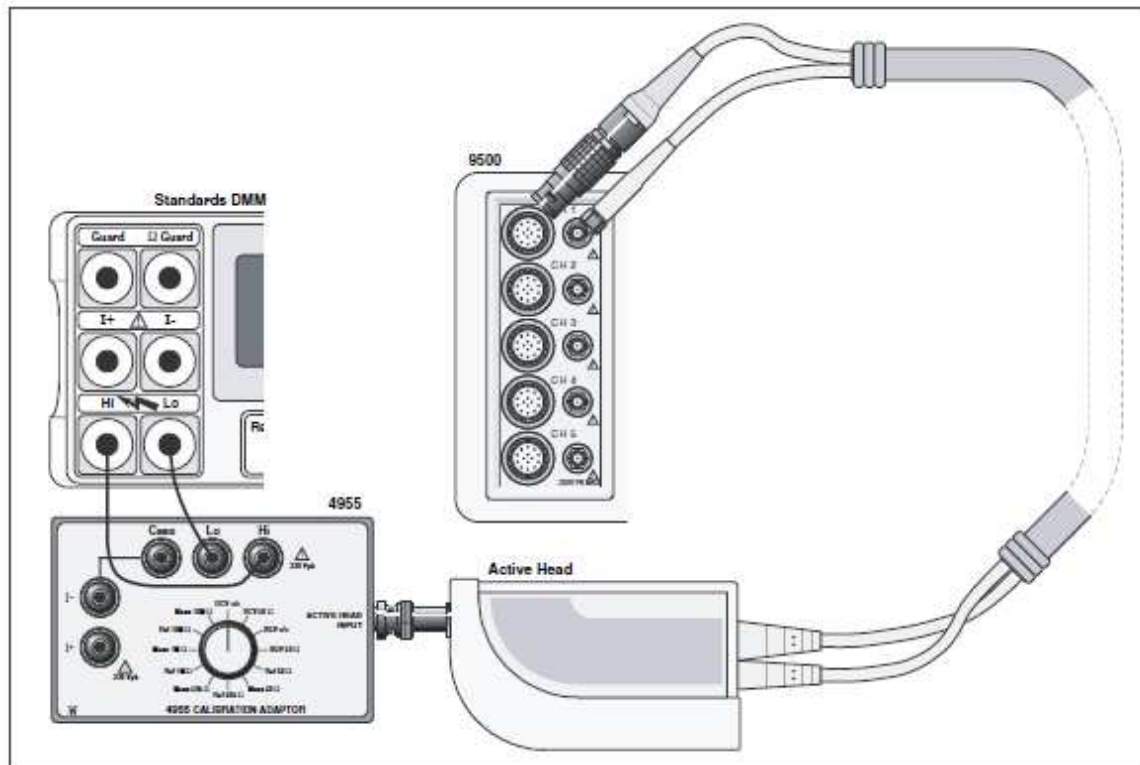

Figure 14. DC/Square; DC Voltage Calibration — Interconnections
1. **Connections:** Ensure that the 9500B is connected to the Standards DMM as shown in Figure 14, or via a similar BNC-4 mm adaptor, and that both instruments are powered on and warmed up.